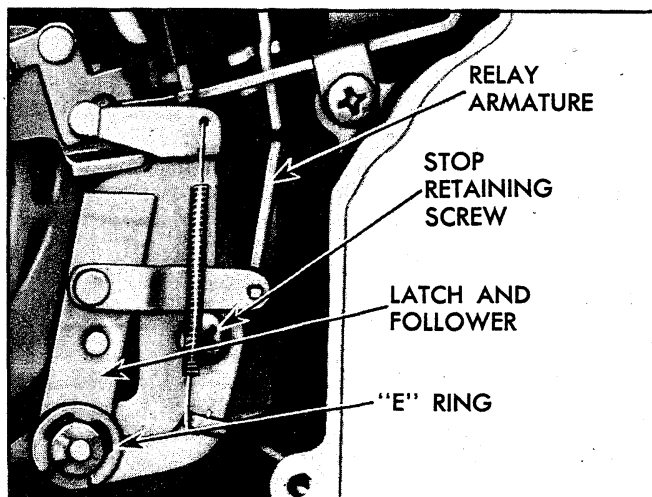

Fig. 97 - Relay Disassembly
2. Refer to Figure 97. Disconnect coil spring, remove "E" ring and lift the latch and follower assembly off the pivot pin and relay armature.